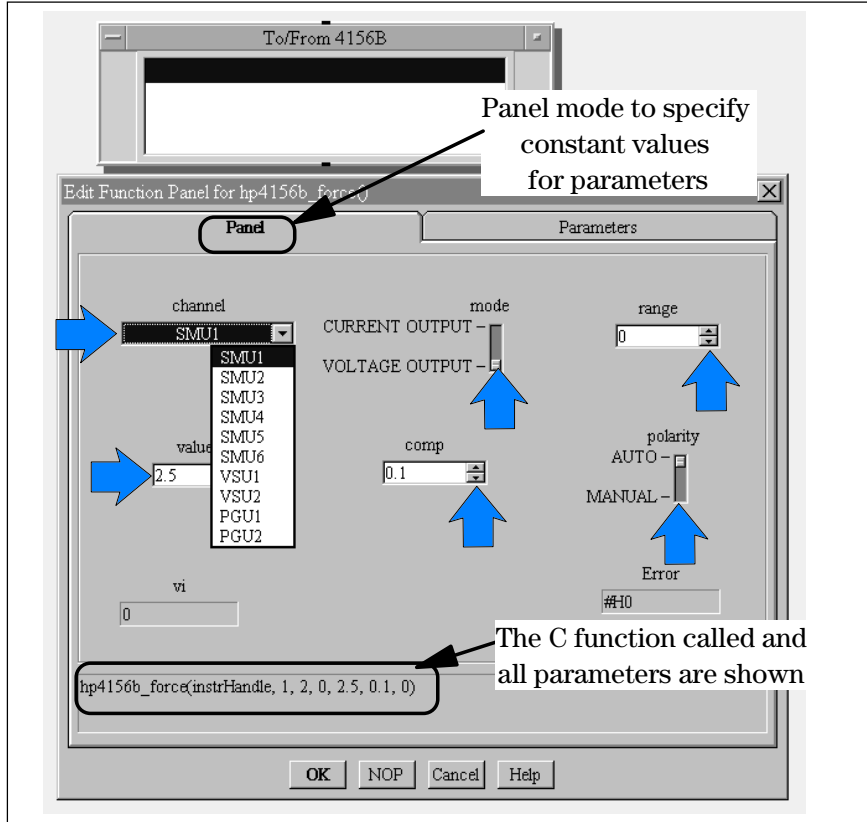

Figure 11. Constant setup in hp4156b_force function panel
Single clicking on "Applying dc Current/Voltage" opens the function panel editor as shown in Figure 11. In panel mode, you can manually set parameters to be used in the selected function. Operation of this mode is very intuitive. Set parameters using the drop-down list and slider switch. All parameters set in this mode are constants, and are shown at the bottom of the panel. This example shows SMU1 forcing voltage in auto range (0) with a voltage value of 2.5 V and a compliance of 100 mA.